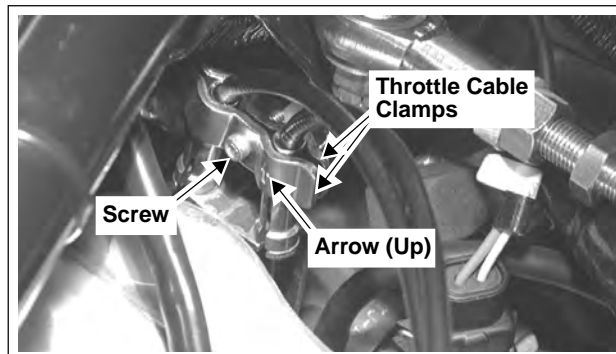
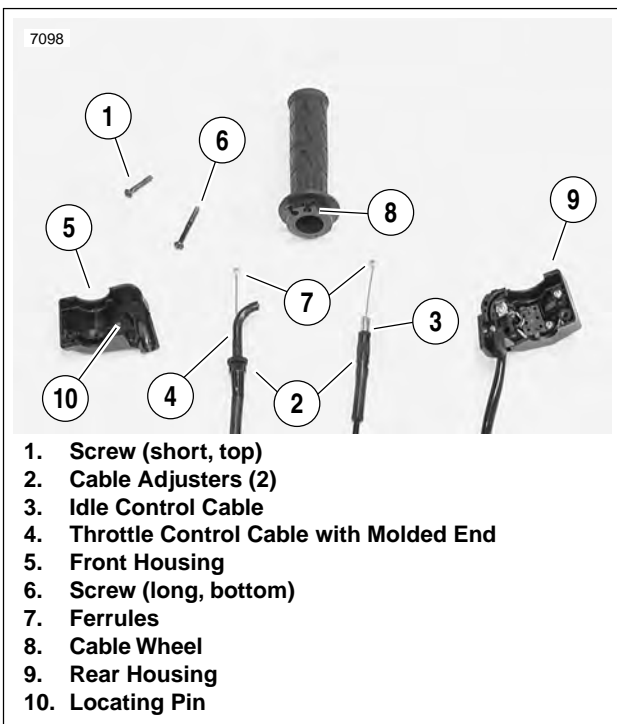

Figure 2-84. Throttle Cable Clamps
Figure 2-86. Cable Connections
2. See Figure 2-86. Remove two screws (1, 6) on front housing. Separate housings from handlebar.
3. Unhook ferrules (7) from cable wheel (8).
6. See Figure 2-84. Remove screw and throttle cable clamps from cables by throttle body.
1. See Figure 2-86. Place cable assemblies (3, 4) into housings (5, 9). Throttle control cable (4) has a molded fitting end and is positioned inside the front housing (5). Idle control cable (3) has a smaller fitting end and is positioned inside the rear housing (9).
3. Attach ferrules (7) to cable wheel (8). When properly assembled, notches for ferrules will be at 12 o'clock.
4. Position housings on right handlebar by engaging locating pin (10) on front housing with hole in handlebar. Attach housings with two screws (1, 6), installing longer screw on bottom. Tighten to 12-17 **in-lbs** (1-2 Nm).
6. See Figure 2-84. Attach throttle cable clamp to ferrules with screw (arrow on clamp points up).